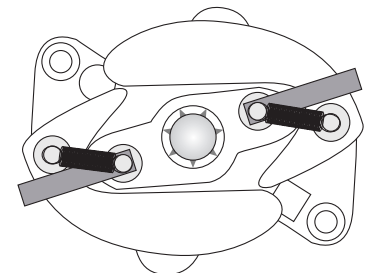

Figure 1
- Install one advance limiter on each inner advance pin. (See Figure 1)